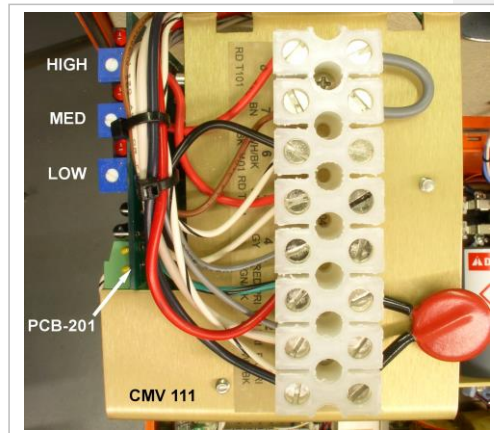

Figure 11b
A Series Lighting Circuit can also be used for remote control if that option has been elected at the time of purchase. A setup procedure is then required at installation. Instructions that cover most variations are on Pages 13 through 16. The adjusting potentiometers are on PCB-201. This circuit board is added to the CMV 111 Controller as a sub-assembly when the series control option is ordered. The adjusting potentiometers on PCB-201 are shown in Figure 11b.
Although the switching levels are initially set up at the factory it is likely that they will have to be fine-tuned upon installation due to specific conditions at your site such as the type of CCR in use and other loads that may be driven by the same CCR. Adjustments are made at the current sensing module shown in Figure 11b. This module is part of the CMV-111 Controller when Series Circuit Control has been purchased as an option
4. At PCB-201, (See Figure 11b) adjust all three potentiometers, LOW; MED; & HIGH, fully counter clockwise (CCW).
4. At PCB 201 (See Figure 11b), adjust all three potentiometers, LOW; MED; & HIGH, fully counter clockwise (CCW).